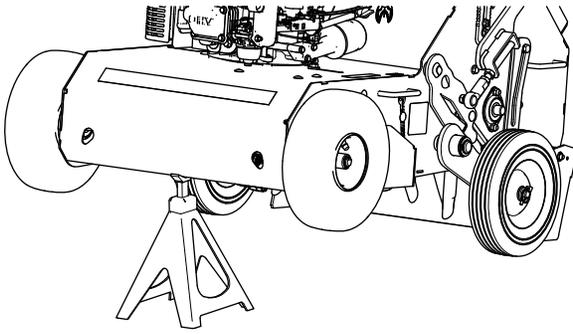

Figure 27
1. If you need to work on the underside of the machine, tip it backward (Figure 27).